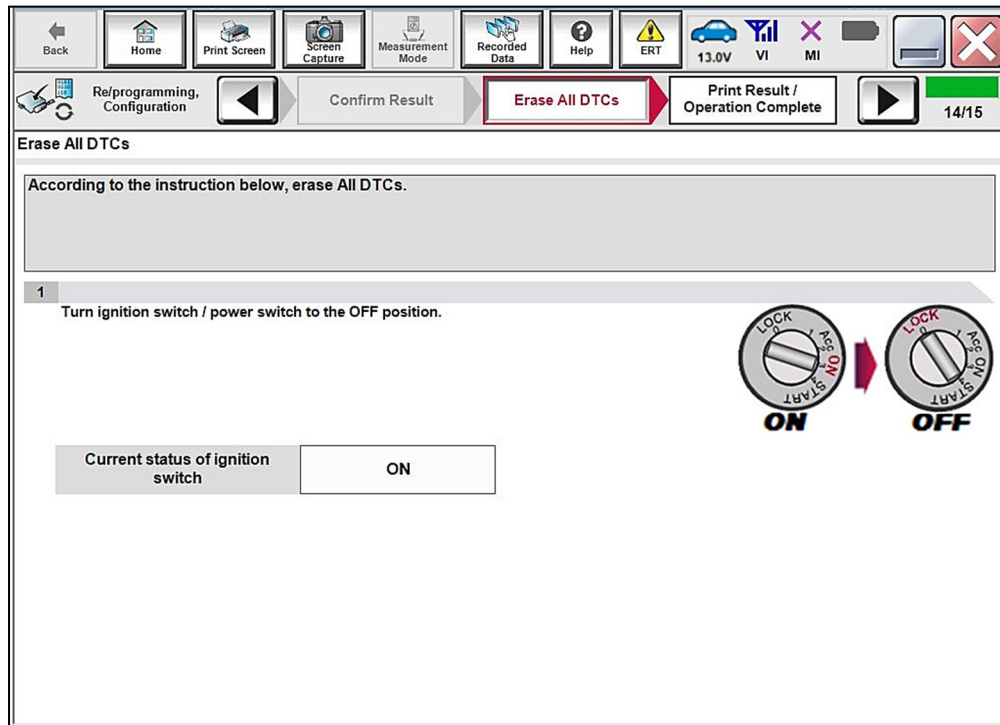
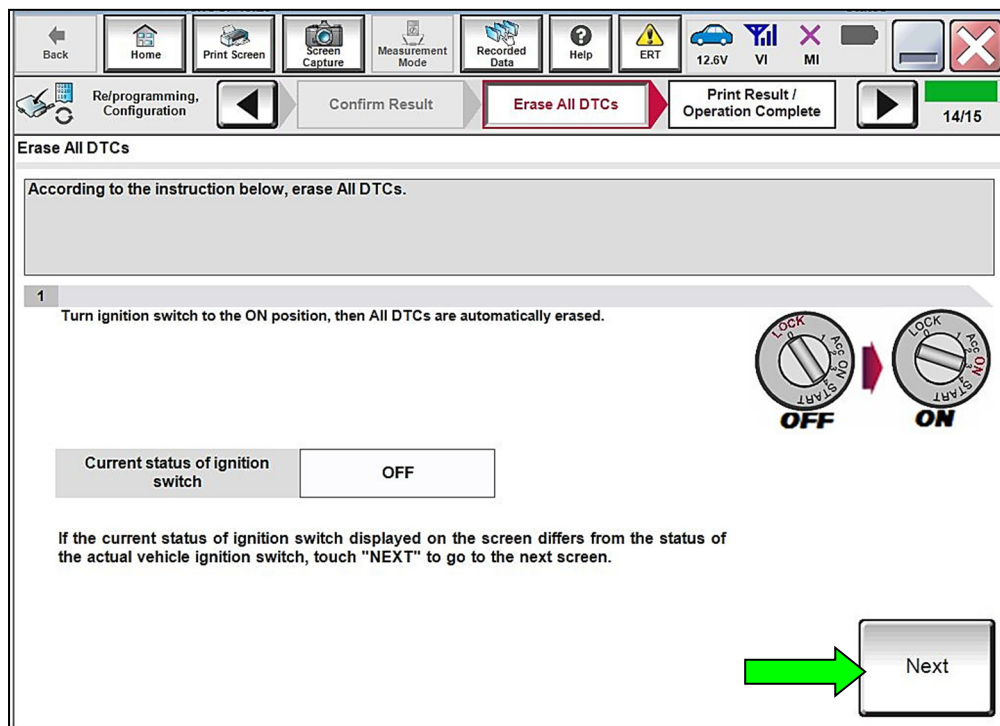

Figure 22
Figure 23
a. Follow the on-screen instructions as shown in Figure 22 and Figure 23.